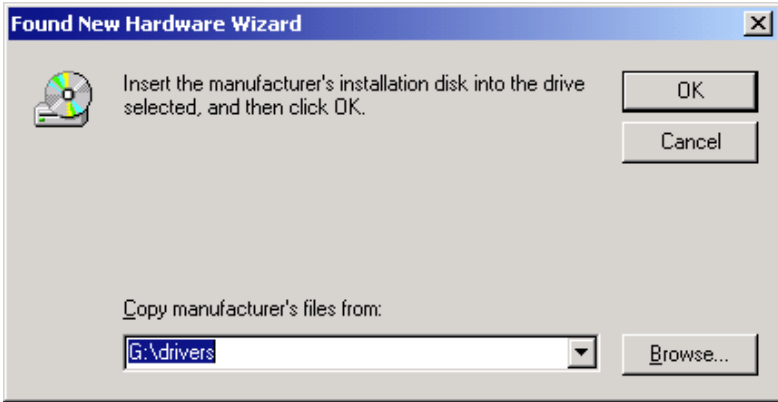

Figure 18. Enter path or browse CD.
4. Enter the path or browse to the Drivers folder on the 3100-500 CD. (Figure 18).